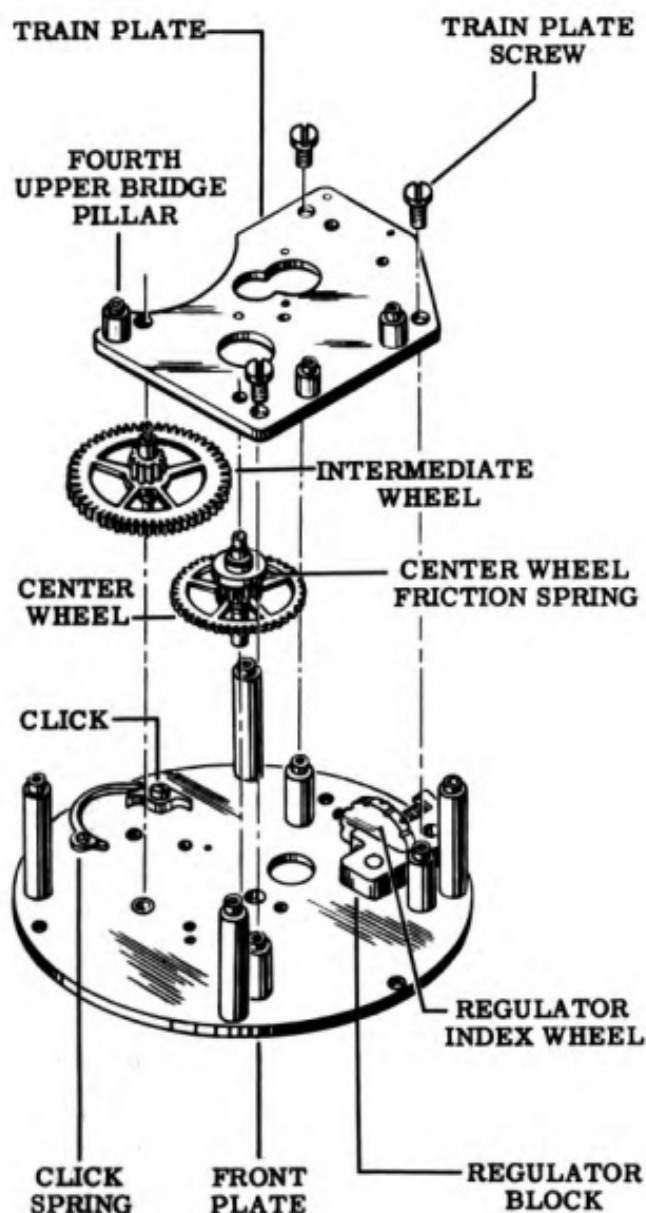

Figure 56
1. Place the front plate on the movement work block (Tool No. 1A) with the pillars facing up. Already mounted on the front plate should be the pillars, the thrust spring, the click, the click spring, the regulator block and the regulator index wheel, unless these parts have been removed for replacement. Replace any of these parts that are missing. Refer to Fig. 56 and also to Fig. 94 in Section VII, for the proper location of these parts.
5. Put the center wheel and intermediate wheel in place. Put on the train plate (see Figs. 56 and 57) and fasten it down with the three train plate screws. Use the special collar (Tool No. 13A) on the end of an automatic